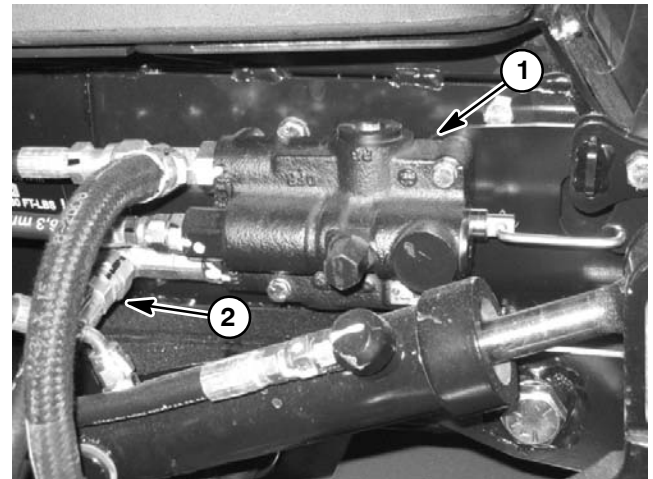
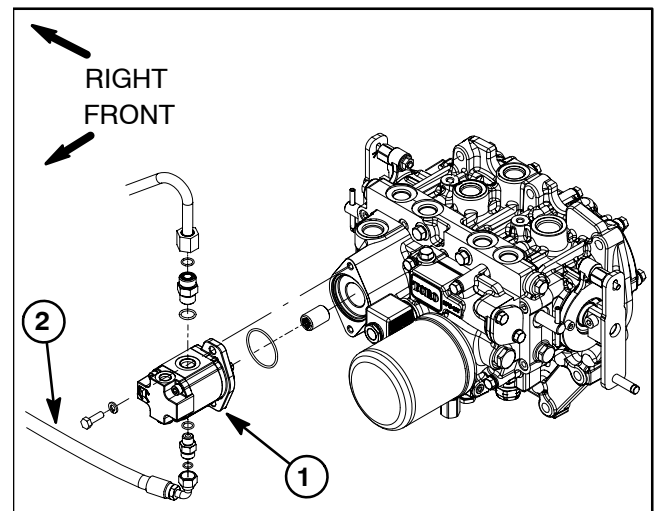

Figure 22
Figure 23
5. Thoroughly clean junction of hydraulic hose and lower fitting on rear of lift control valve (Fig. 22).
6. Disconnect hydraulic hose from lower fitting on rear of lift control valve (Fig. 22). This hose is from the gear pump outlet and provides oil flow to the lift control valve (Fig. 23).